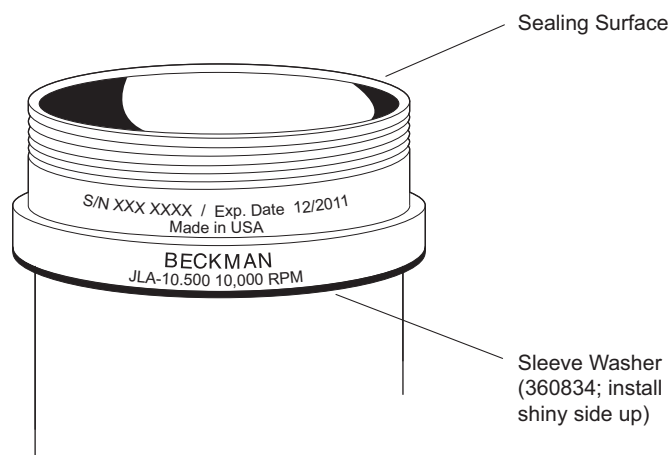

Figure 3. Cannister Sleeve Washer
- Inspect the sealing surface (see Figure 3) to make sure that it is smooth and undamaged. Gouges in this surface may prevent the closure O-ring from achieving a tight seal.
- Each cannister has an expiration date, engraved on the aluminum ring around the top of the cannister (see Figure 3). *Do not use the cannister after this date* (see the Warranty for additional information). New cannisters can be used with the same rotor body. Cannister closures should be replaced when the cannisters are replaced.
- Each cannister has a yellow Ultem⁴ sleeve washer (360834) beneath the aluminum sleeve (see Figure 3), which acts as a cushion between the cannister sleeve and the rotor body. Before each use, check to make sure that this washer is in place. If the cannister is exposed to high temperatures and/or autoclaving, the washer may loosen; if this happens, press it back in place with your finger. If it comes all the way off the cannister, replace it with the *shiny side up*.